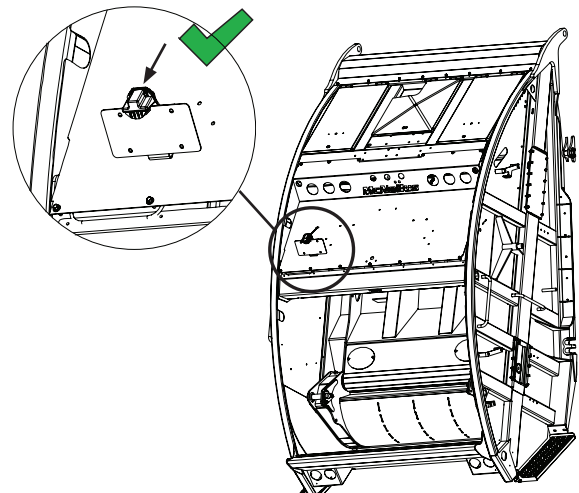

Figure 2
- If the license plate light is located above the plate (Figure 2), it is in compliance.